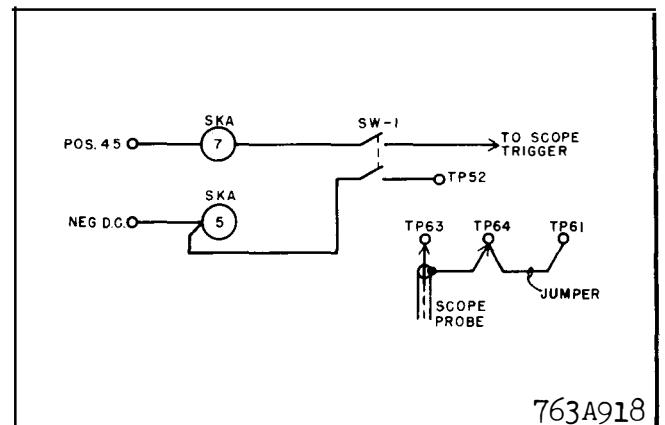

Fig. 13. Test Connections for the Transient Unblocking of the Type SKA Relay.
1. Make the connections shown in Fig. 13.